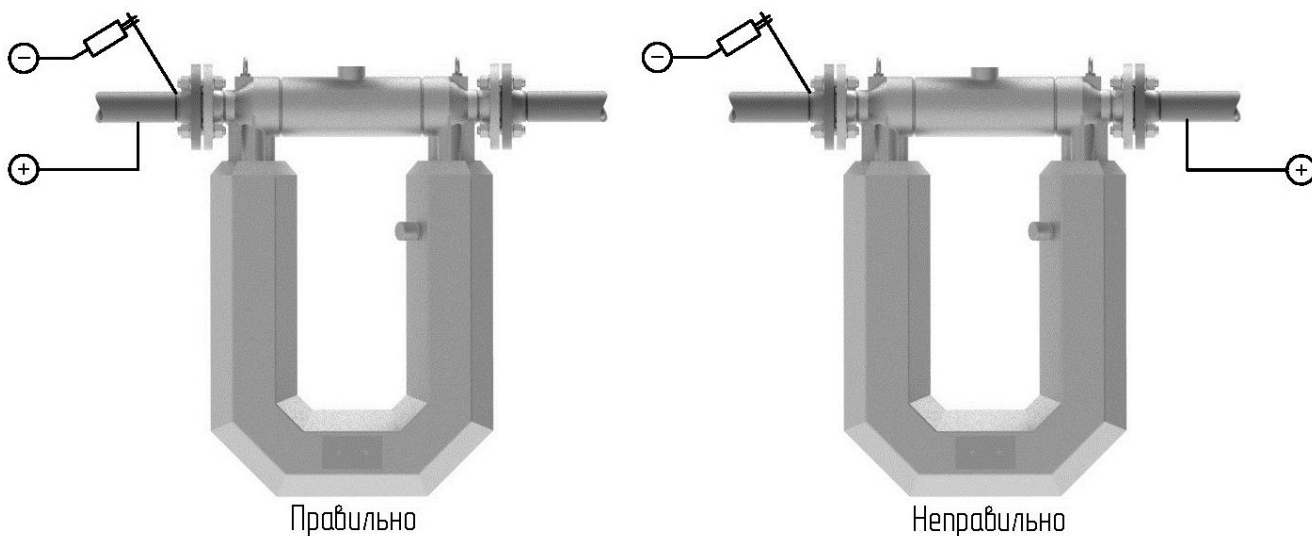

Fig.2.4 - Power supply connection for arc-welding
- arc-welding power source is connected so that current does not flow through the flow meter - see fig.2.4.